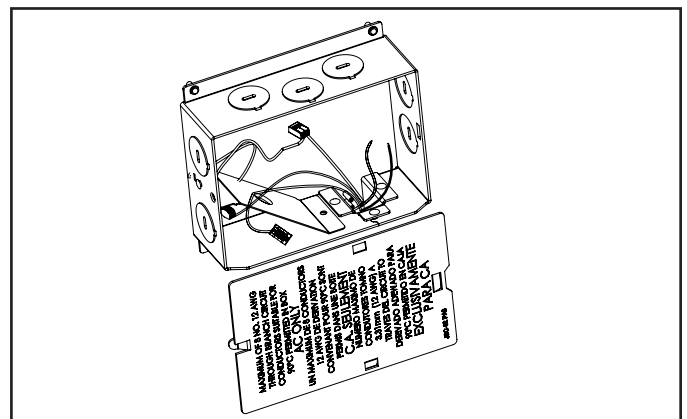

Figure 11.
2. Remove junction box cover (Figure 11).